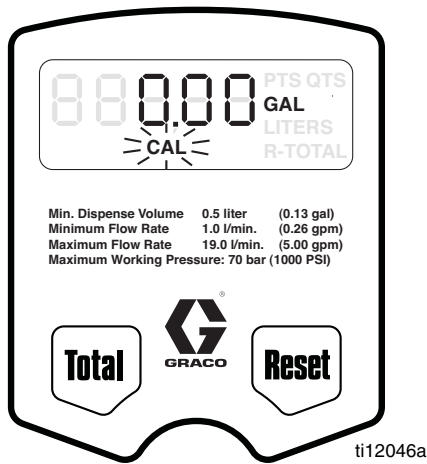

FIG. 13
- c. Press and hold Reset button again to display Calibration Menu. When this menu is displayed CAL blinks on the screen (FIG. 13).
Calibration (Fig. 13)